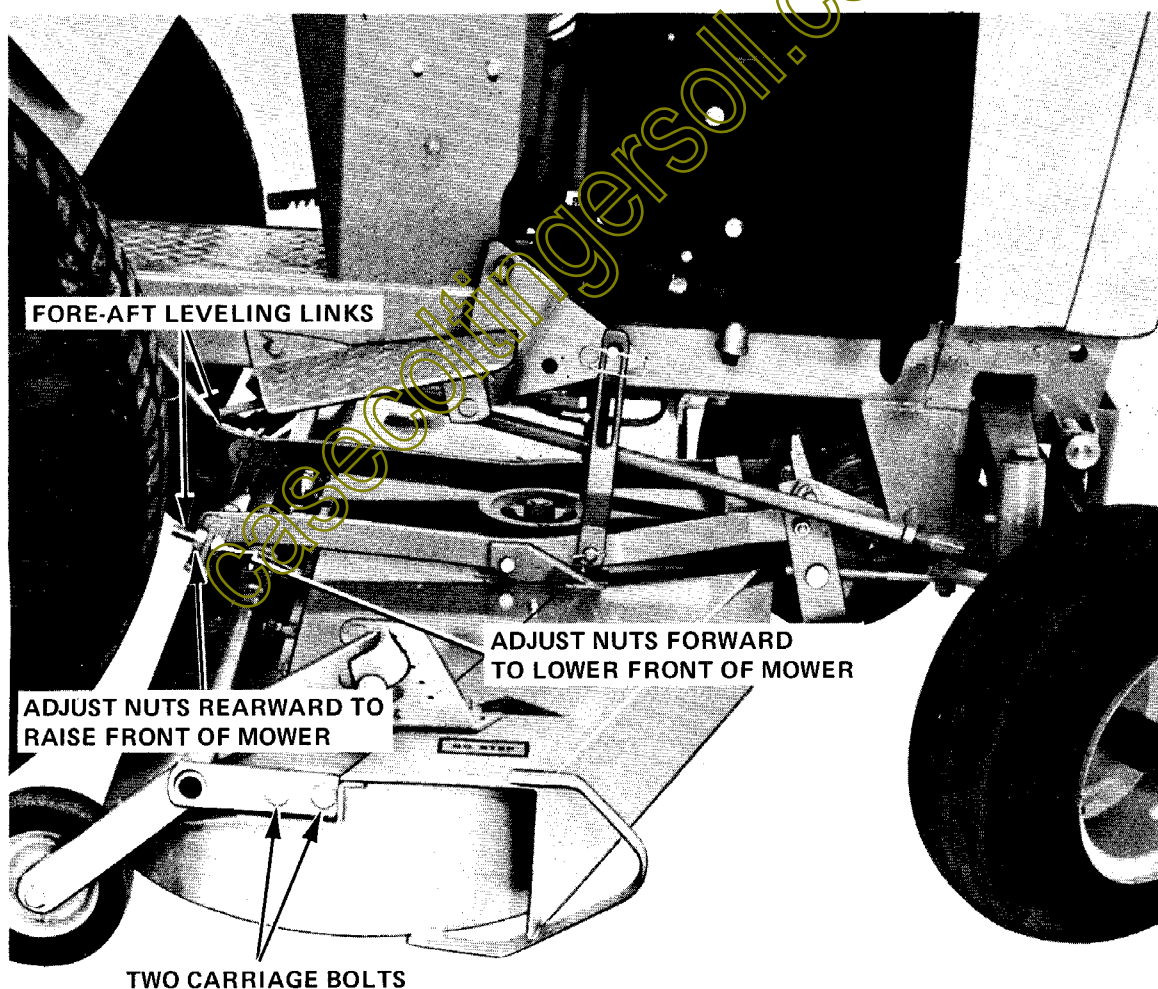

FIGURE 6 ADJUSTMENTS
4. Mower Fore-Aft Leveling Links. See Figure 6.
5. Mower Side to Side Leveling. See Figure 6.